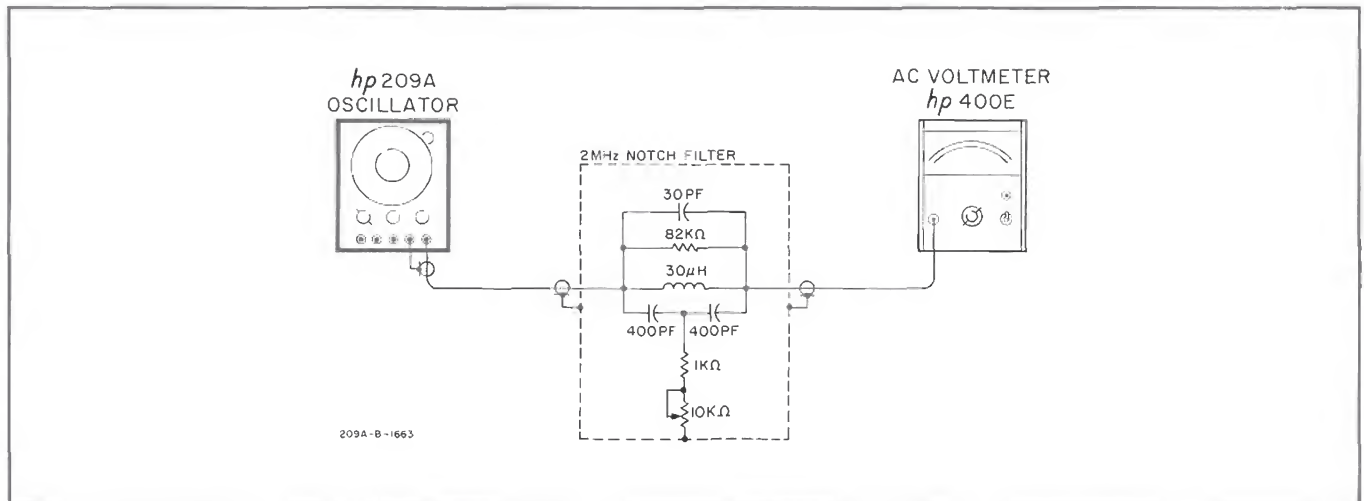

Figure 5-3. 2 MHz Distortion Check
- i. Connect the equipment as shown in Figure 5-3.